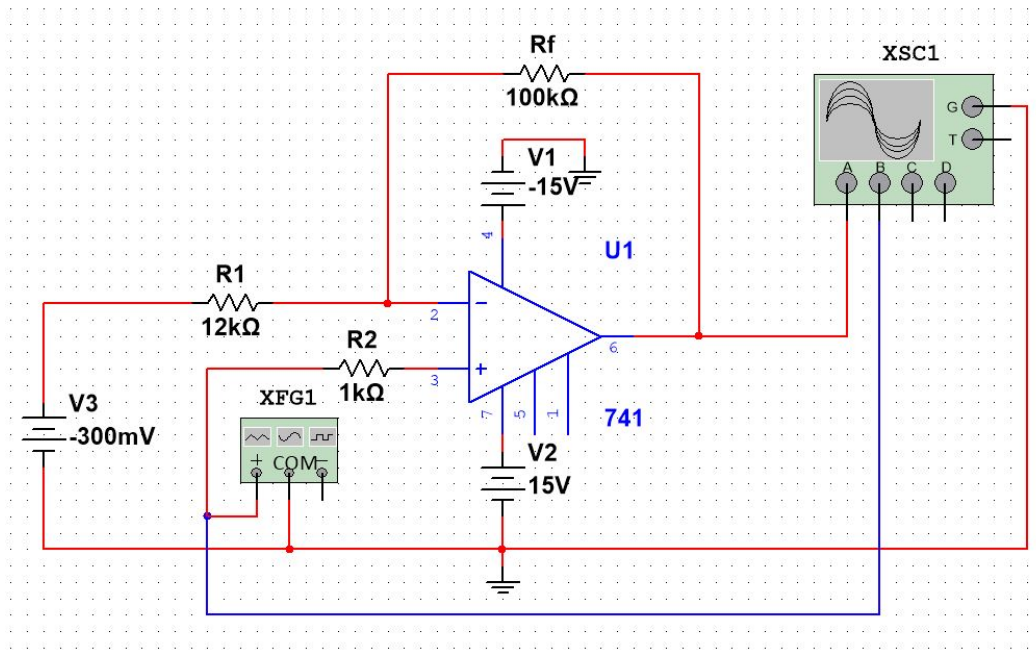

Figure 4: Amplifier with Level Shift
3.1 Construct the amplifier shown in Figure 4.
3.7 The gain of a non-inverting amplifier such as in Figure 4 can be approximated with the following gain Equation.
1.1 Construct the amplifier shown in Figure 4.